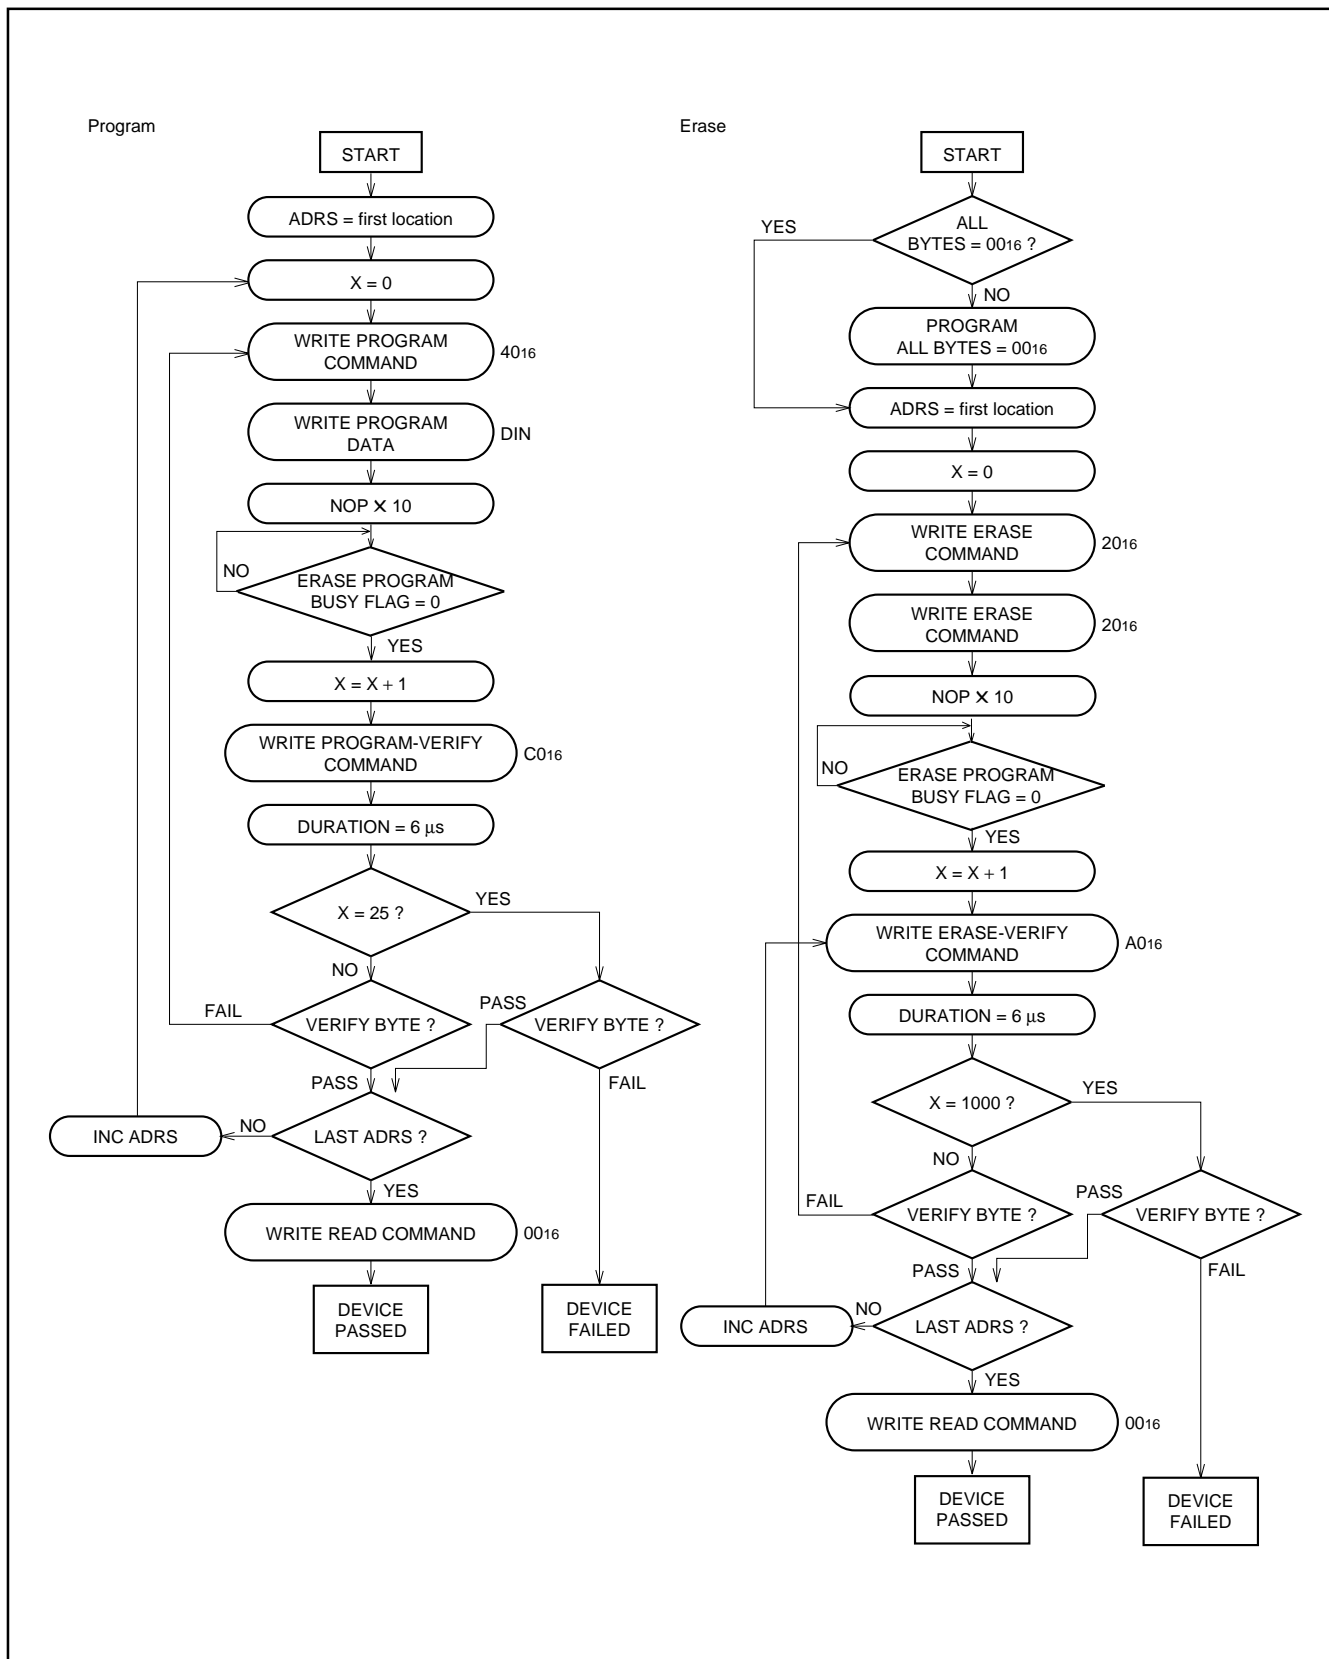

Fig. 24 Flowchart when program/erase/auto erase is executed (1)
**Note:** A programming operation is not completed by executing the program command once. Always be sure to execute a program verify command after executing the program command. When the failure is found in this verification, the user must repeatedly execute the program command until the pass. Refer to Figure 24 for the flow chart of the programming.
**Note:** The erasing operation is not completed by executing the erase command once. Always be sure to execute an erase verify command after executing the erase command. When the failure is found in this verification, the user must repeatedly execute the erase command until the pass. Refer to Figure 24 for the erasing flowchart.